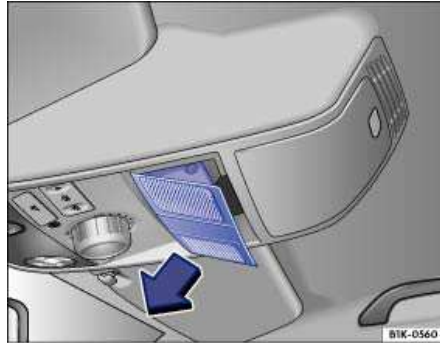

Fig. 158 In headliner: Removing cover.
1. Remove the cover in direction of the arrow ⇒ fig. 158.